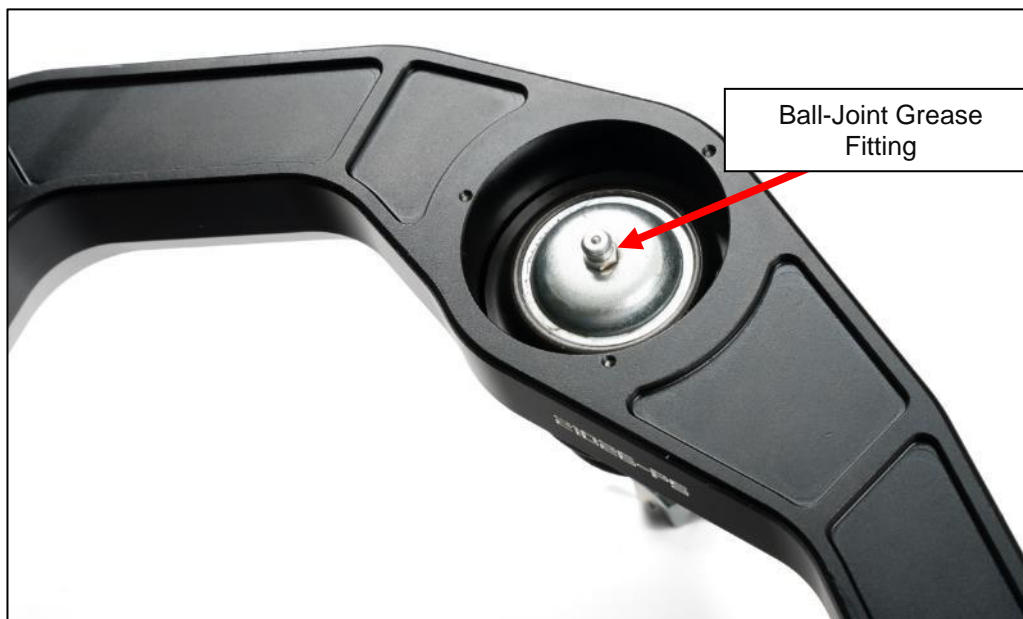

Figure 7
19. Once the Z1 Control Arms are adjusted to the same length as the OEM Control Arms, tighten the (2) two hex socket bolts, switching back and forth until both bolts are torqued to **10 ft-lbs.** It is recommended to add Loctite to these bolts. Then, tighten the Jam Nuts on the Heim Joints against the Double Adjusters with an adjustable wrench or 28mm.
20. Remove the (3) three M3 Button Head Screws on the Ball-Joint Dust Cover. Using red axle grease or equivalent, add grease into the grease fitting on the ball joint. We added between 5-8 pumps on each side until we noticed some grease come out of the boot or the boot start to swell up. Depending on what pump you are using it may require more or less pumps. **DO NOT** overfill the boot to the point that it tears. *Figure 7.*